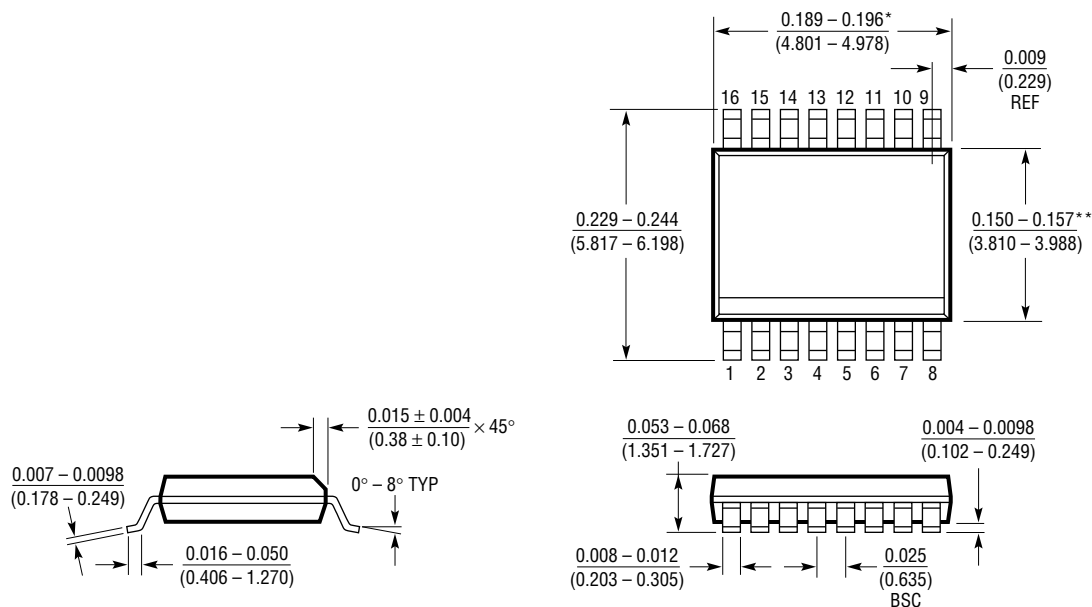

**Figure 14. External Conversion Clock Selected. Data Transferred After Conversion Using an External SCLK. BUSY↑ Indicates End of Conversion**
**Using External Conversion Clock and External Data Clock.** In Figure 14, data is also output after each conversion is completed and before the next conversion is started. An external clock is used for the conversion clock and either another or the same external clock is used for the SCLK. This mode is identical to Figure 13 except that an external clock is used for the conversion. This mode allows the user to synchronize the A/D conversion to an external clock either to have precise control of the internal bit test timing or to provide a precise conversion time. As in